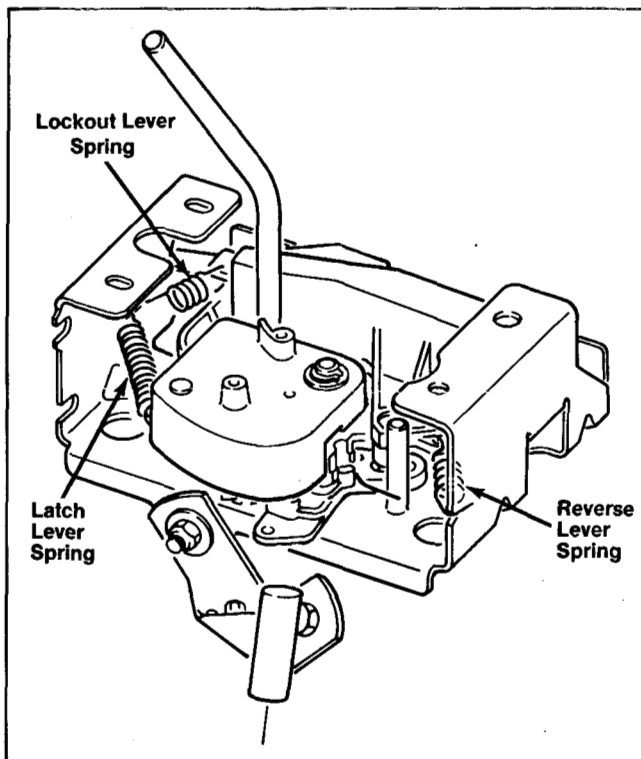

Figure 40
10. Make sure that all three control box springs are in the position shown in Figure 40.